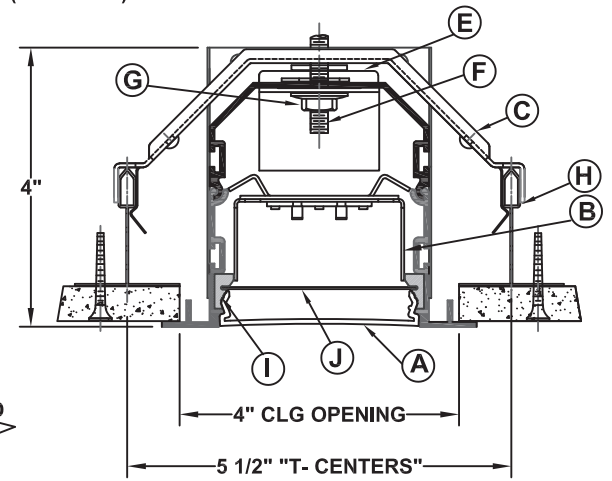

FIG. 1
CEILING CONTRACTOR MUST PROVIDE A ROUGH CEILING OPENING WIDTH AS INDICATED BELOW IN FIG. 1 WITH 1-1/2" WIDE DRYWALL TEE MOUNTED ON CENTERS ALSO AS INDICATED BELOW IN FIG. 1 ALONG EACH SIDE OF OPENING (REF. FIG. 1). LENGTH OF OPENING SHOULD BE AS INDICATED ON FACTORY SHOP DRAWING. IF YOU ARE NOT IN POSSESSION OF A SHOP DRAWING, CONTACT YOUR LOCAL REPRESENTATIVE OR THE FACTORY TO OBTAIN ONE.
LOCATE AND SECURE SNAP-IN YOKE (C) TO "TEE" SUPPORT ON THE CENTERS INDICATED ON FACTORY SHOP DRAWING. (REF. FIG. 1) THE YOKE CAN BE ADJUSTED ONCE INSTALLED BY REMOVING TENSION ON SPRING CLIP AND SLIDING TO PROPER POSITION.